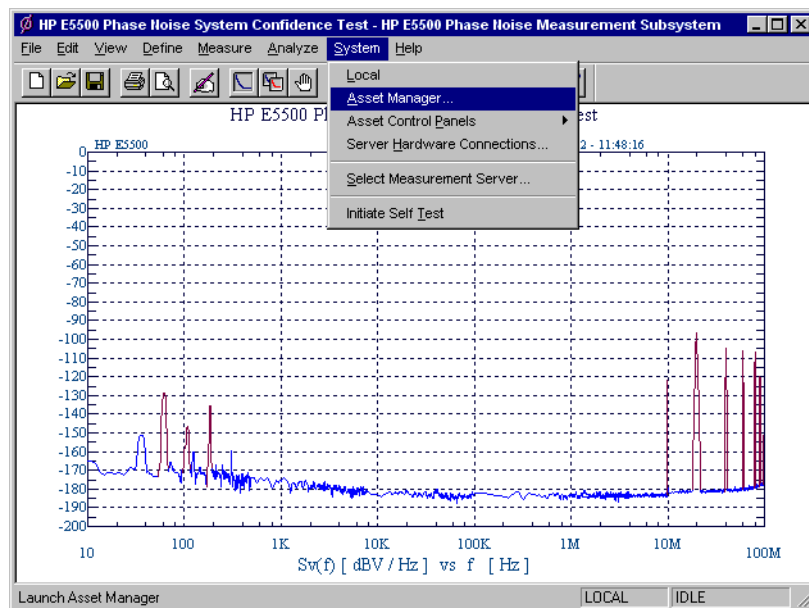

Figure 5-2 Navigate to Asset Manager
- 4 Using Figure 5-2 as a guide, navigate to **Asset Manager**.